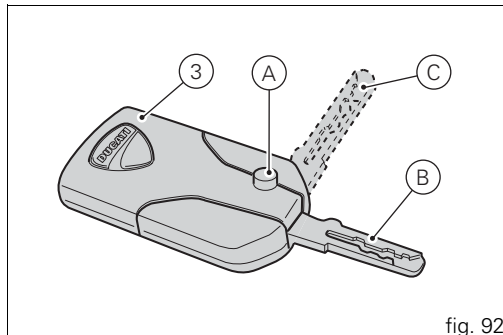

fig. 92
The key (3) metal part is hidden inside the key: press button (A, fig. 92) to fully open the metal part, i.e. position (B, fig. 92). Hold depressed button (A, fig. 92) you can move the metal part and set it to the middle position (C, fig. 71); once in place, release button to lock.
With the vehicle in Key-On and “engine off”, if the presence of the active key (3, fig. 92) is not detected for thirty consecutive seconds, the motorcycle will turn off automatically without any action by the rider.